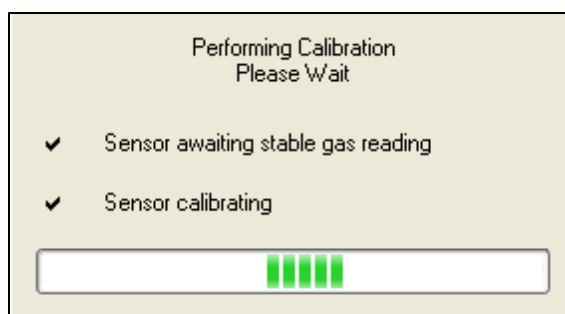

Figure 6-12: Calibration Status Dialog
- Calibration will start and the 'Performing Calibration' dialog will now pop up as shown in Figure 6-12.